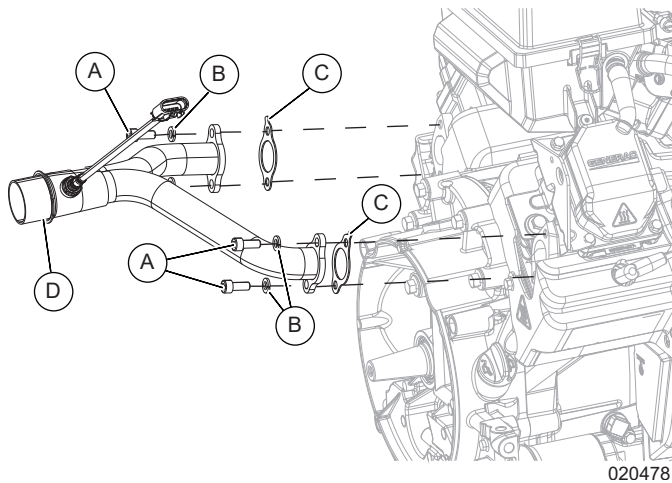

Figure 6-13. Remove Exhaust Manifold
- See Figure 6-13. Remove four exhaust manifold bolts (A) and washers (B).